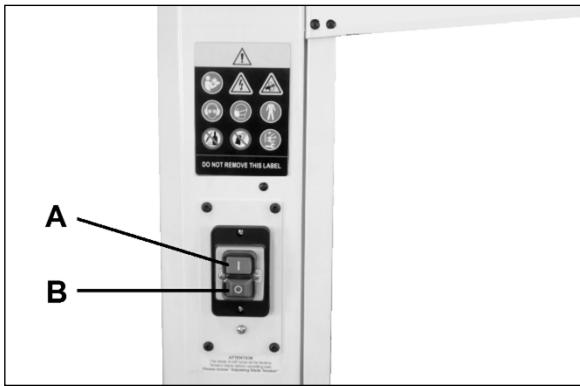

Fig 18
You can start the machine with the green ON-button (A, Fig 18). The red OFF-button (B) on the main switch stops the machine.